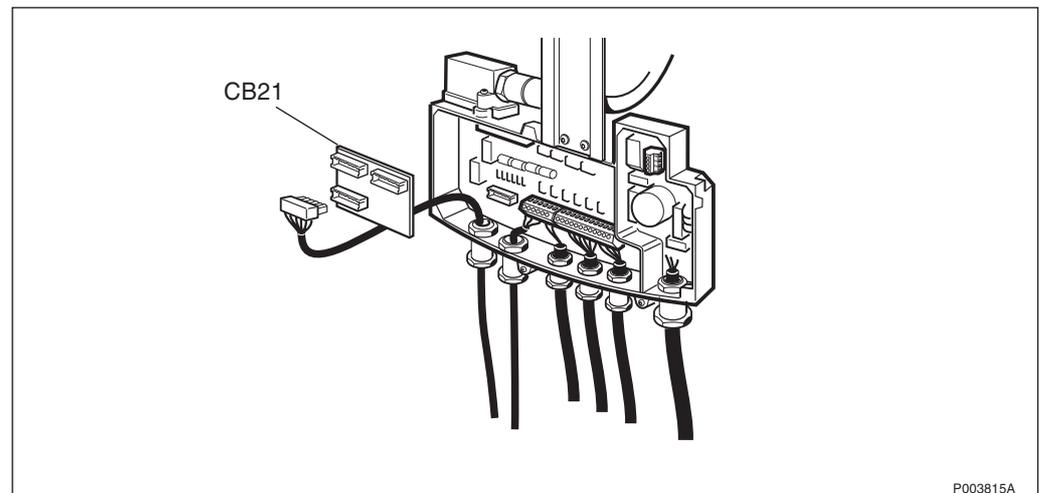

Figure 370 CB21 connector board
2. Connect the PCM A cable plug to the loopback socket on the connector board CB21, *see Figure 370 on page 347*.